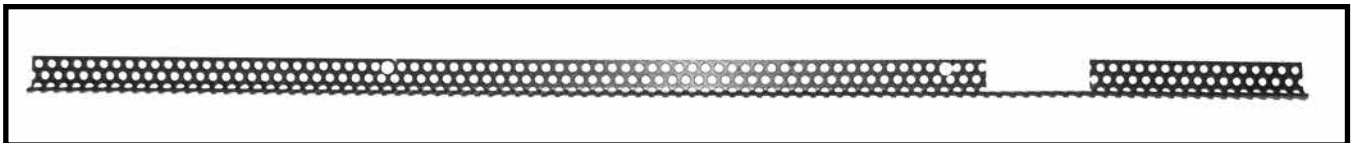

Figure 65: Front mesh guard.
3. Place the front mesh guard (Figure 65) along the leading edge of the front burner as shown in (Figure 66) and secure with supplied screws.